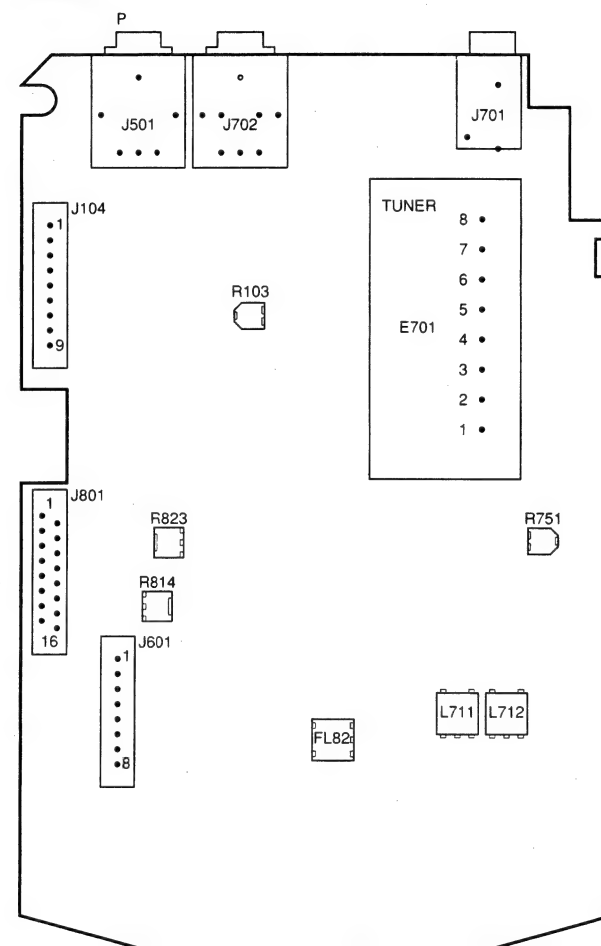

Fig. 7.1
1. Adjustments to the main panel (see Fig. 7.1)